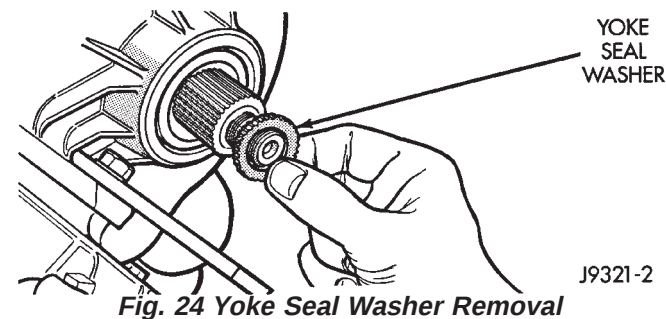

Fig. 24 Yoke Seal Washer Removal
(3) Remove yoke seal washer from front output shaft (Fig. 24).